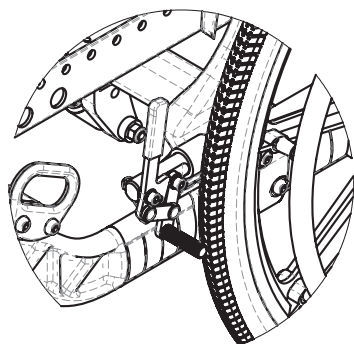

Figure 14.30: Push to Lock Wheel Locks
The hole position on the anti-tip tube based on rear wheel sizes are shown in Figure 14.30.
1. To engage the push to lock wheel lock (see Figure 14.30), push the lever forward, away from the wheel, until it locks into place.